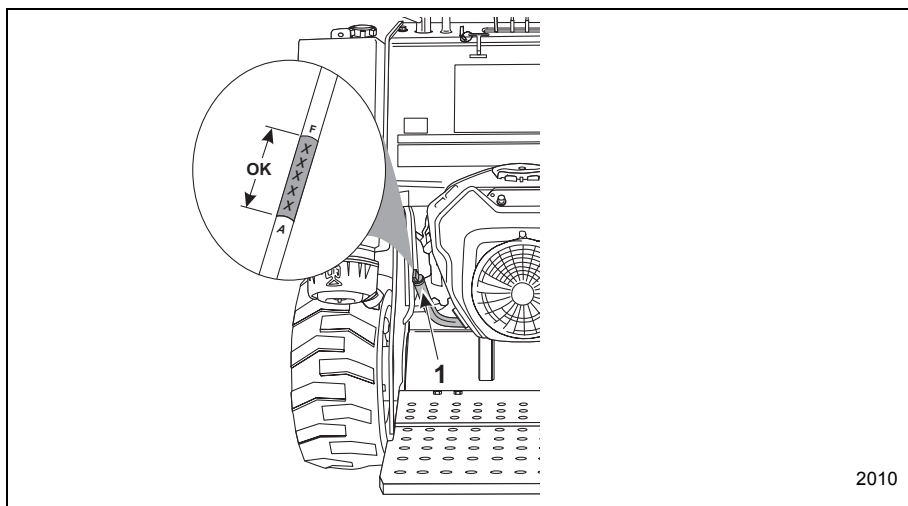

Figure 4-2 Oil Level Check
- b. Pull out the dipstick (Item 1, Figure 4-2) and look for the “FULL” line.
- c. If the oil level is between the FULL and ADD lines, the oil level is within the normal use range. If the oil level is below the ADD line, carefully add the proper amount of oil through the engine oil filler tube (Item 1, Figure 4-2). It is important to add the correct type of engine oil as stated in the engine manual.